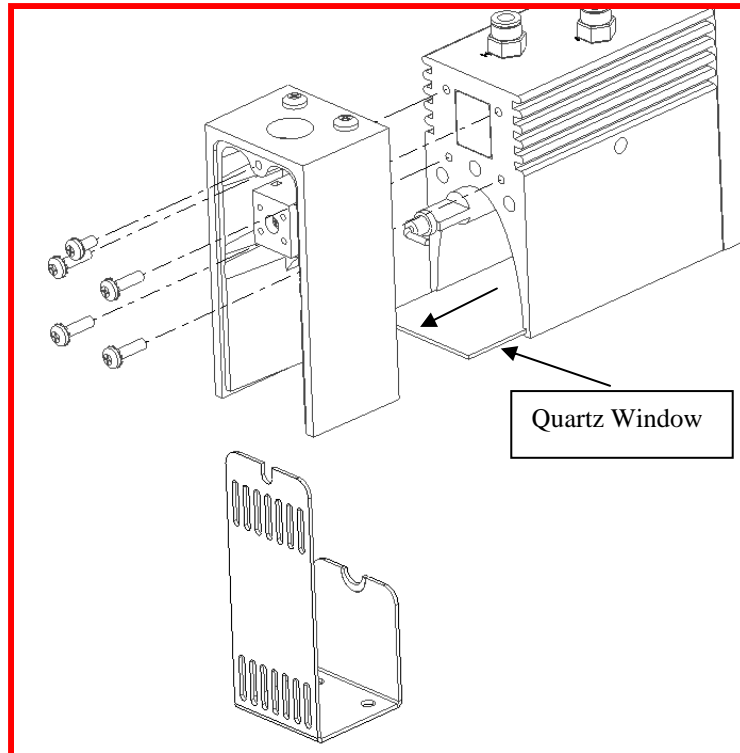

Figure 6-2. Model 5194 Quartz Window Removal.
3. If installed in the heater, remove the quartz window from the heater by sliding the window out of the slots machined into the reflector body (see Figure 6-2). Take this opportunity to clean the window using non-abrasive cleaning solvent and clean, soft cotton cloth (see Section 6-2).